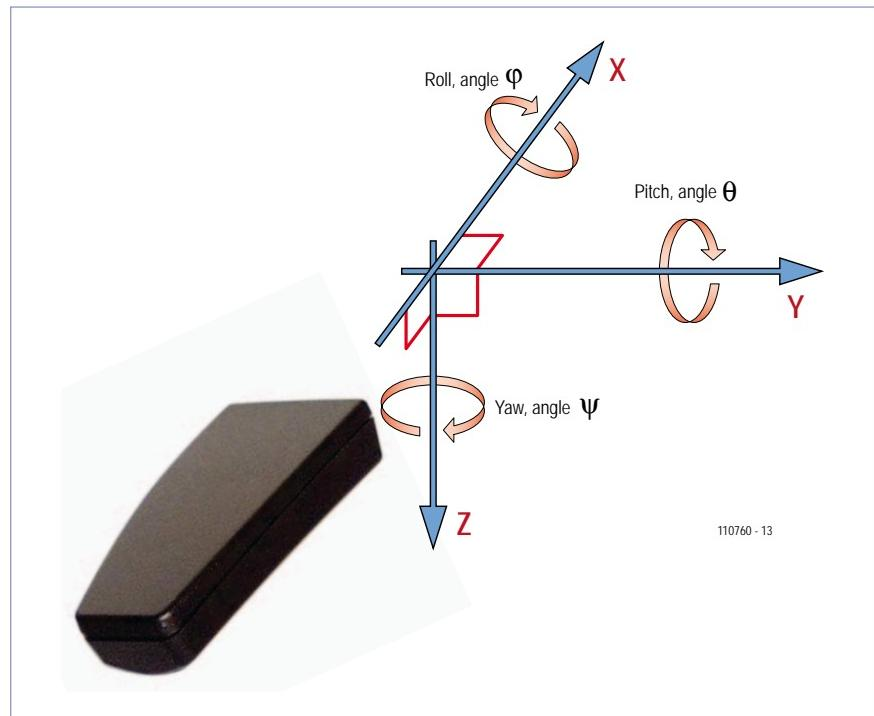

Figure 5. Marking the axes for the device.
**Figure 5** shows this system of co-ordinates applied to our project.